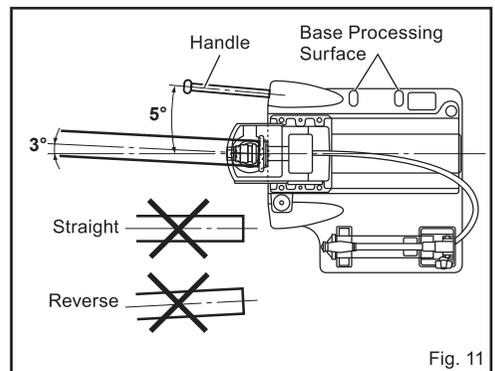

Fig. 11
Adjusting the pipe swing (Fig. 11)
1. Set the pipe in position by swinging it by about 3° in the direction shown in Fig. 11. Adjust the swing of the pipe by positioning the pipe support.
If the pipe is set straight or in the reverse position, the pipe may be drawn out and drop off the rollers, resulting in accident or injury. Be sure to position the pipe in the direction shown in Fig. 11